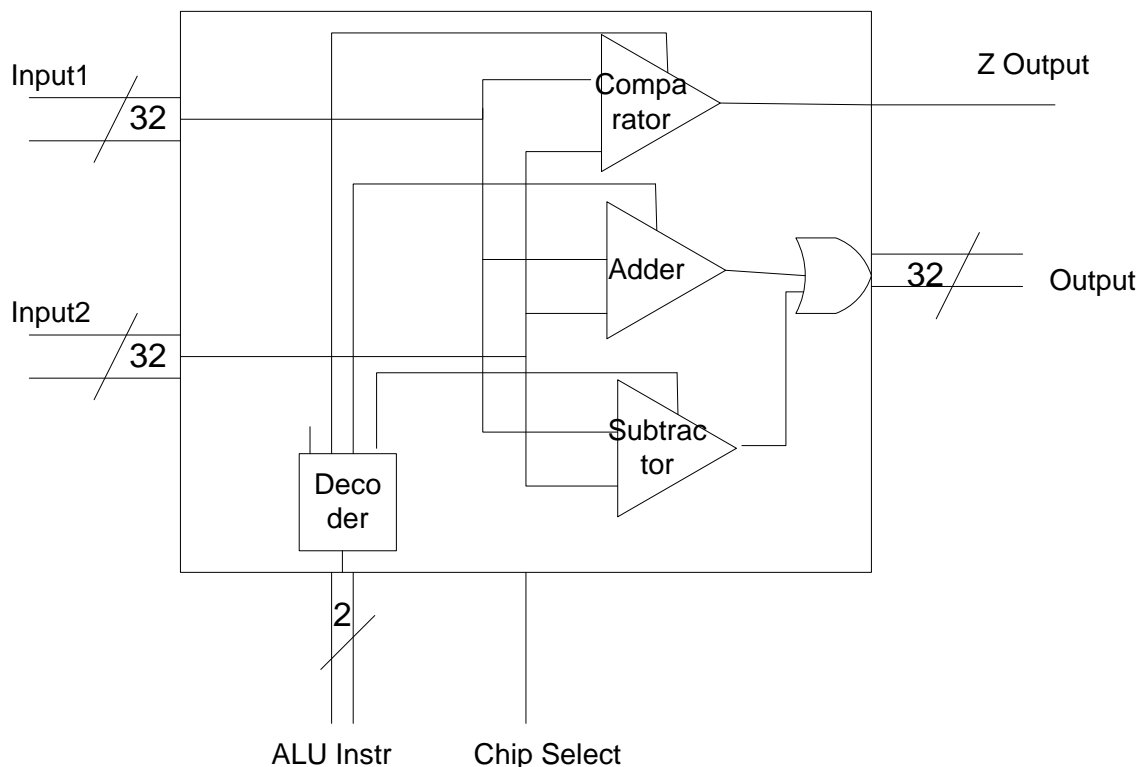

Figure 5 ALU Module
5.5 ALU module (EX)
- Consists of one full adder and one full subtractor modules as shown in figure 5.